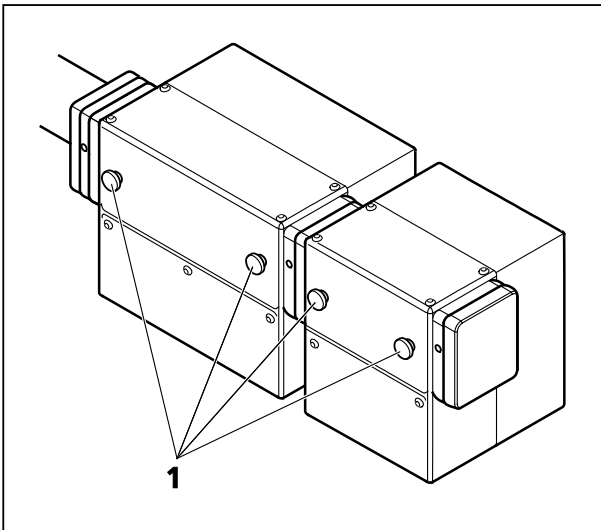

Fig. 7 Thumbscrews of the P&C sliders
The first NDD module, which is attached to the NDD port, is always a two channel module (Fig. 7/1). Inside this module right at the opening towards the microscope is a small clamping that holds a blocking filter (1442-160 or 1442-161; order# Feb. 08). Both filters are short pass filters which block the IR light of the multiphoton laser with an optical density (OD) of at least 7. If none of these filters is installed, the image quality will not be sufficient as too much laser light will get to the detectors. Always make sure one of these filters is in place.
To install them, open the metallic grey lid of the NDD module turning the thumbscrews (Fig. 7/1). Once the lid is removed the clamping is accessible. Slid in the filter, which is attached to a small holder, into the clamping with the little screw on the side of the holder situated on the left side of the holder when facing towards the microscope.
- To change the cubes simply take out the sliders which hold the cubes by unscrewing them from the rest of the module using the thumbscrews (Fig. 7/1).